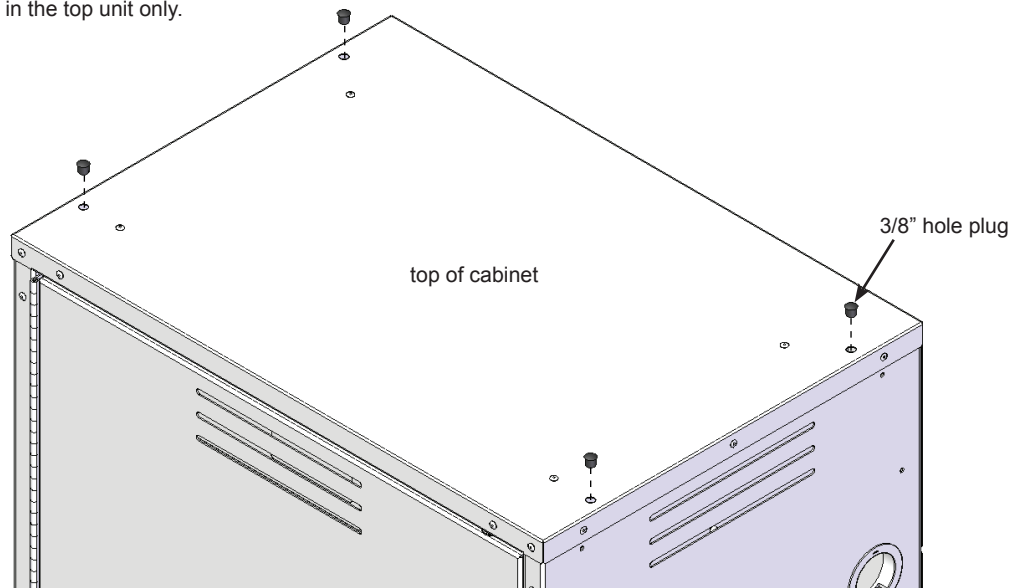

Figure 7
1. Install the (4) 3/8" hole plugs into the top of the cabinet. **Figure 7.**